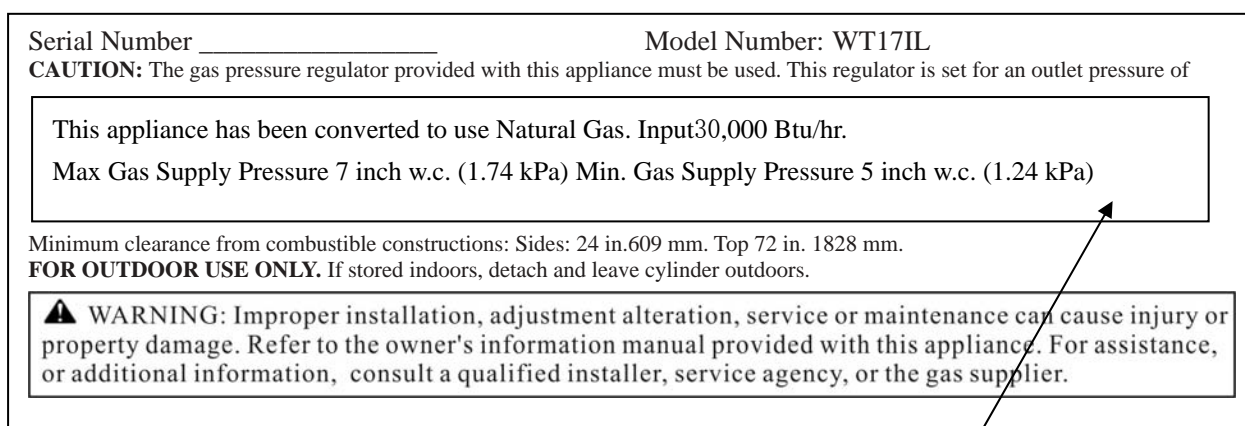

Figure 15
10. Stick the conversion label on the rating plate as shown in Figure 15.